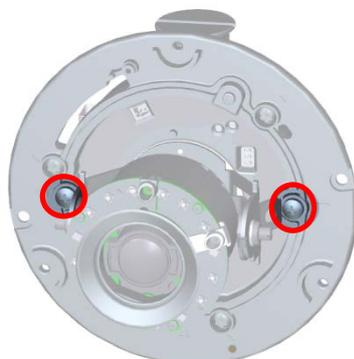

Figure 5
1. Turn the screws clockwise to extend the locking arms as seen in Figure 5.